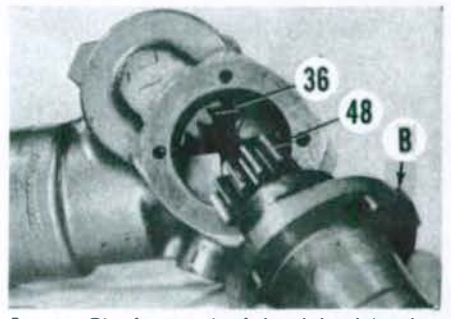

Fig. 17—The first tooth of the right pinion (48) should be meshed with first valley of rack (36). Identification boss (B) on housing is shown at (B).
Turn the installed steering shaft (31) until the rack (32) is at bottom of travel, position the steering gear housing (34) as normally installed on the tractor and install the left pitman shaft and housing assembly. The flat identification boss on left housing should be down when installed. The marked third tooth on left pinion should be aligned with the center valley of the rack as shown in Fig. 16. Install retaining screws, then turn steering shaft until rack (32) is all the way up in housing. Align the first tooth on right pinion (48—Fig. 17) with first valley on left pinion (36) as shown. The identification boss (B) on right housing should be toward front as installed on tractor. After correct alignment is obtained, the right side pinion housing can be temporarily removed (while maintaining correct alignment) and housing filled through opening to capacity with Massey-Ferguson Permtran Oil or equivalent. Install the right pinion housing and right pitman shaft after filling with oil.